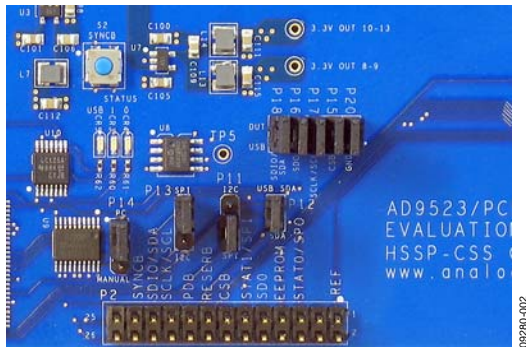
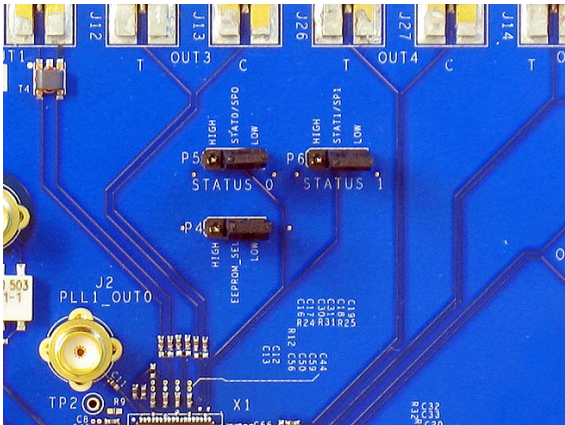

Figure 2. USB and SPI Jumper Connections
Figure 3. I2C Address Jumper Setting
The evaluation board is configured for proper PC control and operation. If the jumpers are inadvertently moved, use Figure 2 and Figure 3 to reconfigure the board.
2. Set Jumpers P11 and P13 to the **I2C** position (see Figure 2).
3. Select the desired I2C address using Jumpers P5 and P6 (see Figure 3). Note that setting P5 and P6 low is reserved for SPI mode.